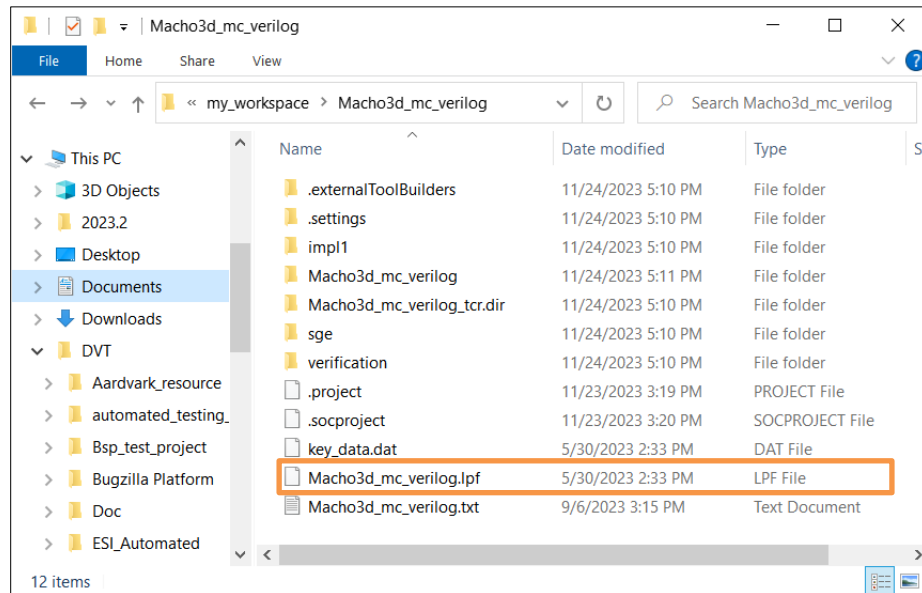

Figure 5.14. Lattice Diamond Constraint File in Source Project
- d. For a board-level SoC project, copy the Lattice Diamond constraint .lpf file from the source project (Figure 5.14).